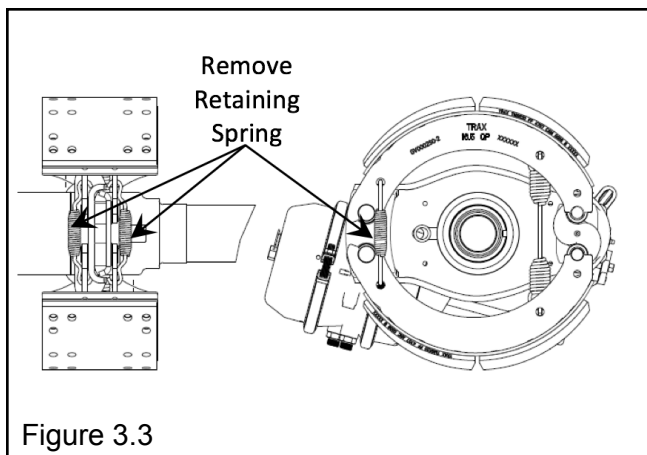

Figure 3.3
1. Remove the two retaining springs. (Figure 3.3)